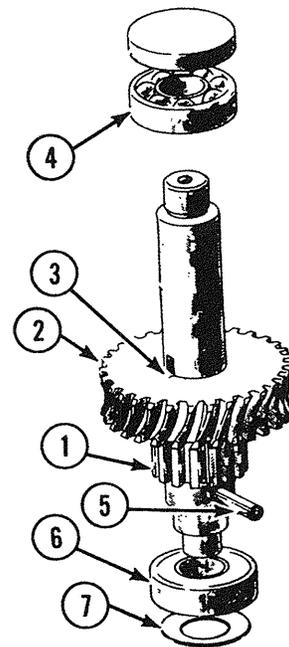
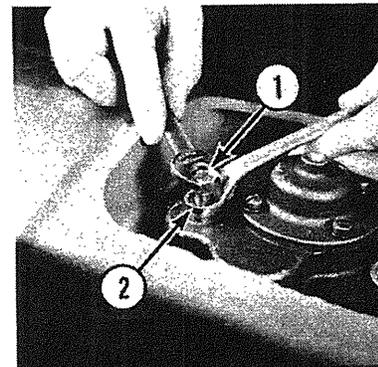

Fig. 3-20
Fig. 3-39
- D. Remove worm shaft gear (14t) (1, Fig. 3-20).
- E. Remove worm gear (29t) (2, Fig. 3-20).
- F. Remove key (3, Fig. 3-20).
- G. Remove upper bearing (4, Fig. 3-20).
- A. Install key (3, Fig. 3-20).
- B. Install worm gear (29t) (2, Fig. 3-20) with the hub down.
- C. Install worm shaft gear (14t) (1, Fig. 3-20).
- D. Install spirol pin (5, Fig. 3-20).
- E. Install lower ball bearing shielded side towards gear (6, Fig. 3-20).
- F. Install upper ball bearing shielded side toward gear (4, Fig. 3-20).
- FF. If the worm gear drive seems noisy, it may not be properly engaged with the worm. Adjustment is made by turning screw (1, Fig. 3-39) after loosening nut (2, Fig. 3-39). The worm gear shaft is supported on the cup spring washer (7, Fig. 3-20). The shaft can be raised or lowered to correct the worm and worm wheel contact. The adjustment will be most effective if made when the mixer is loaded. Loosen or tighten screw gradually until best sound level is reached.